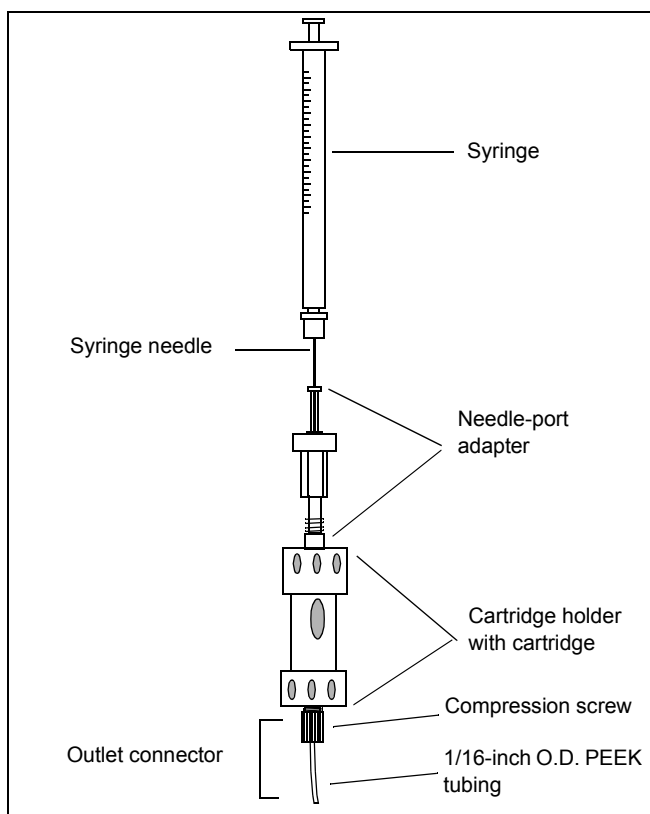

Figure 5 Cartridge Connection
2. Assemble the outlet connector: slide the PEEK tubing provided in the Applications Development Kit into a 10-32 compression screw, then finger-tighten the compression screw into the outlet end of the cartridge holder (Figure 5).
3. Connect the needle-port adapter to the inlet end of the cartridge holder (Figure 5).